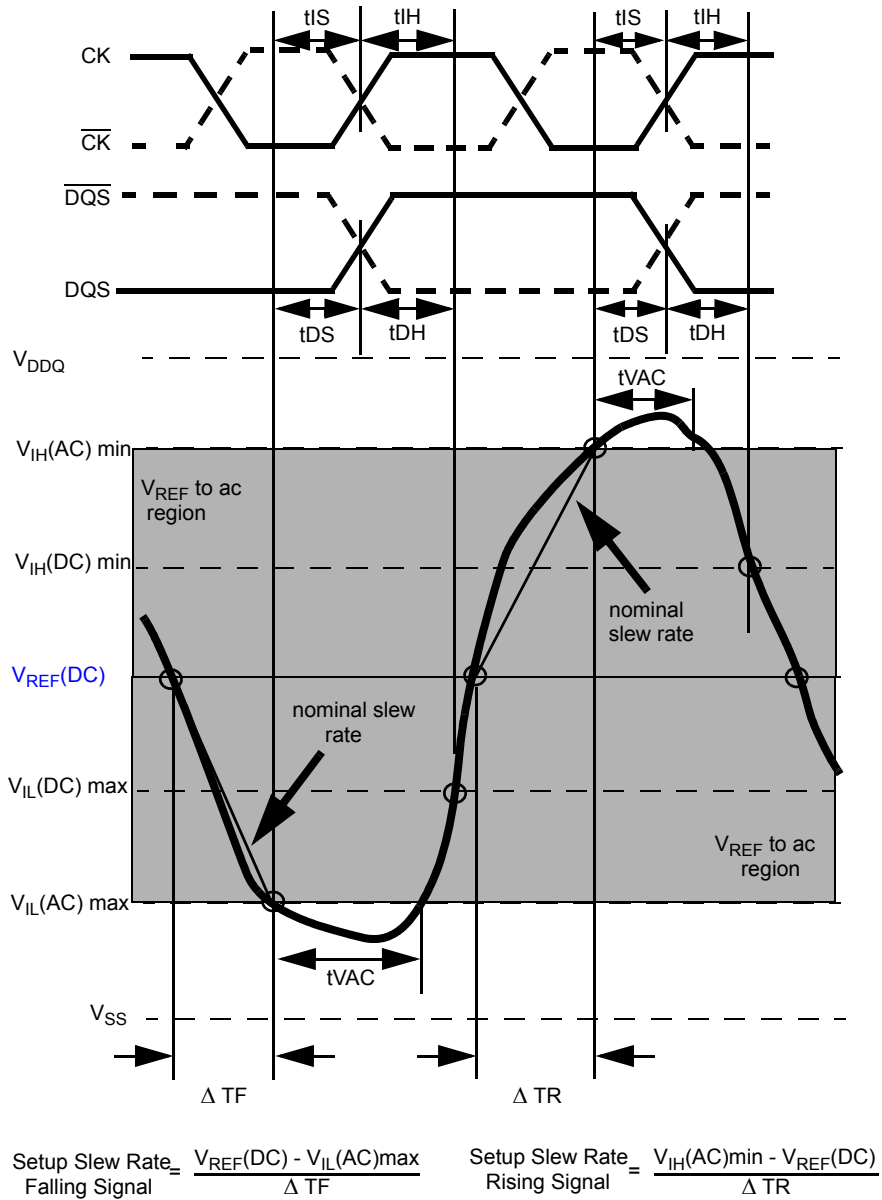
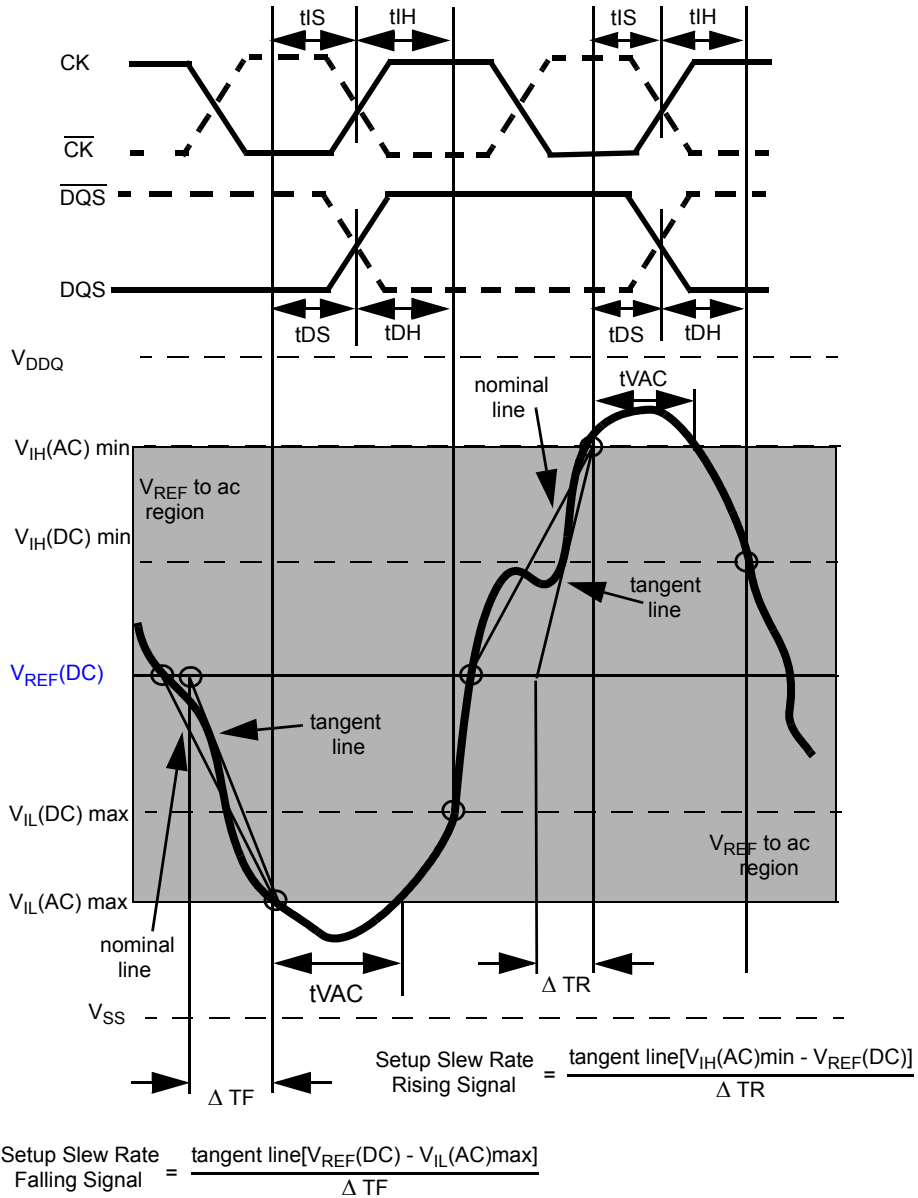

Figure 25. Illustration of nominal slew rate and t_{VAC} for setup time t_{DS} (for DQ with respect to strobe) and t_{IS} (for ADD/CMD with respect to clock).
Figure 27. Illustration of tangent line for setup time t_{DS} (for DQ with respect to strobe) and t_{IS} (for ADD/CMD with respect to clock)
Setup (tDS) nominal slew rate for a rising signal is defined as the slew rate between the last crossing of VREF(DC) and the first crossing of VIH(AC)min. Setup (tDS) nominal slew rate for a falling signal is defined as the slew rate between the last crossing of VREF(DC) and the first crossing of VIL(AC)max (see Figure 25). If the actual signal is always earlier than the nominal slew rate line between shaded 'VREF(DC) to ac region', use nominal slew rate for derating value. If the actual signal is later than the nominal slew rate line anywhere between shaded 'VREF(DC) to ac region', the slew rate of a tangent line to the actual signal from the ac level to dc level is used for derating value (see Figure 27).